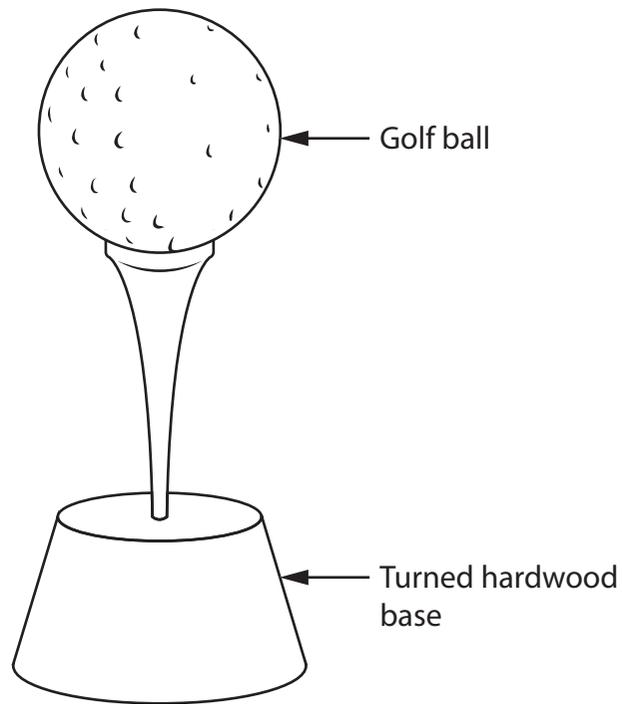

Figure 10
- 5 Figure 10 shows a design solution for a golf trophy that is primarily made from timbers.